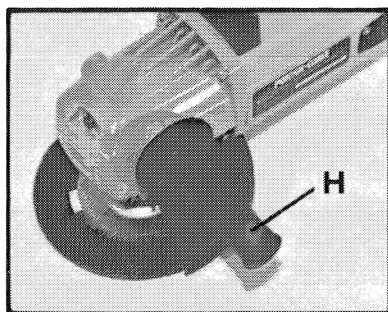

Fig. 2
An auxiliary handle (H) Fig. 2, is furnished with your machine and can be installed on either side of the front housing. This handle **SHOULD BE USED AT ALL TIMES** to maintain complete control of the machine.